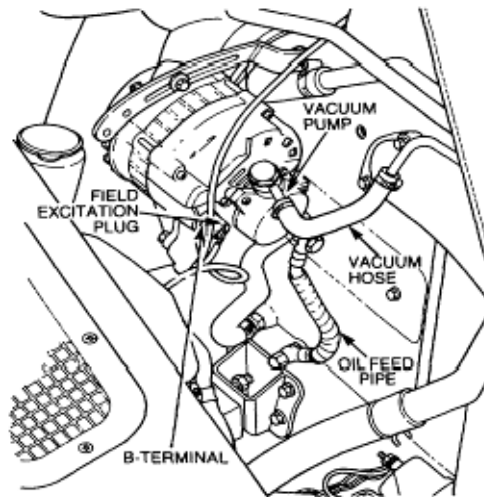

Figure 146 Alternator Removal
- b. Loosen the hose clamp securing the hose to the vacuum pump (Figure 146) and plug the hose with a suitable plastic plug.
- g. Remove the nut and washer securing the cable to the B-terminal of the alternator (Figure 146).